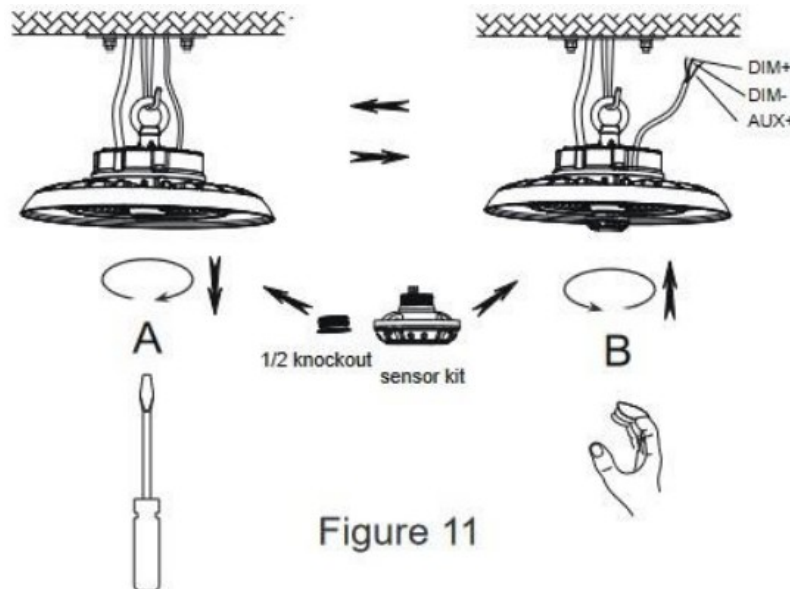

Figure 11
2. Screw the sensor into the socket (Figure 11).
3. The sensor is preprogrammed to default settings. To adjust settings, use the optional remote control (PLTS-12281, sold separately) (Figure 11).